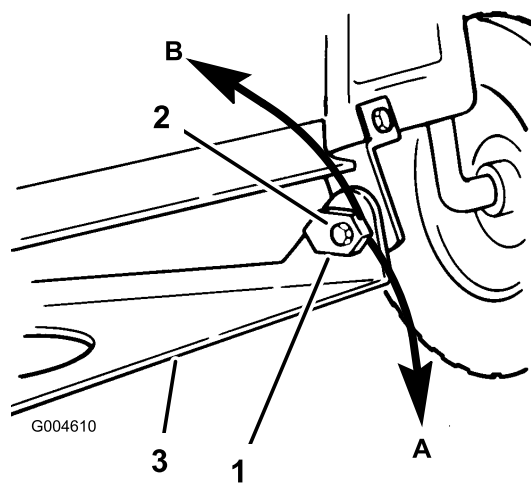

Figure 48
15. Adjust the front-to-rear slope by rotating the special slope adjusting nuts on both sides of the mower pivot mount (Figure 48).
16. Slowly rotate the left side slope adjusting nut down to raise the front of the mower; rotate the nut up to lower the front of the mower (Figure 48). Rotate the slope adjusting nut until the front of the mower is 1/4 to 5/8 inch (6 to 16 mm) lower than the rear of the mower.